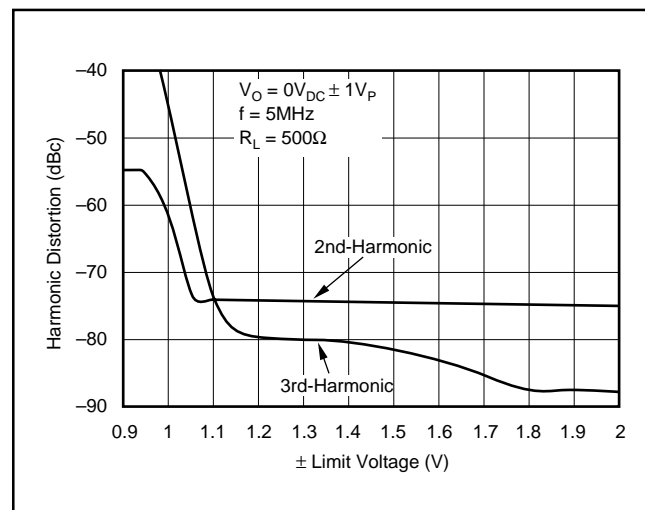

FIGURE 21. Harmonic Distortion Near Limit Voltages.
- The limiter offset voltage only slightly degrades limiter accuracy. Figure 21 shows how the limiters affect distortion performance. Virtually no degradation in linearity is observed for output voltage swinging right up to the limiter voltages.